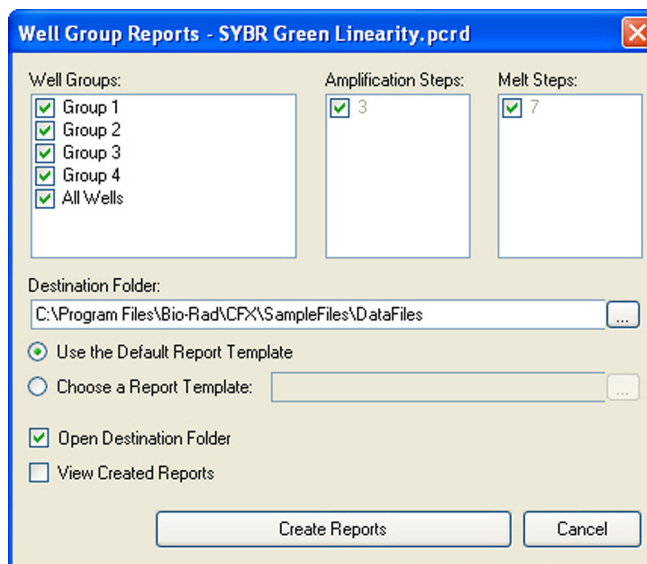

Figure 88. Well Group Reports window.
2. From the **Well Groups Reports** window (Figure 88) the Well Groups, Amplification Steps, and Melt Steps to be included in the reports can be specified by checking the appropriate box.